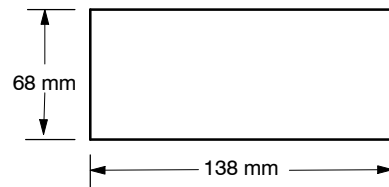

Figure 2-1 Dimensions for Cutting a Hole in the Mounting Surface of the TD 200C and TD 200
- Cut a 138 mm x 68 mm hole in the mounting surface (DIN 43700). See Figure 2-1.